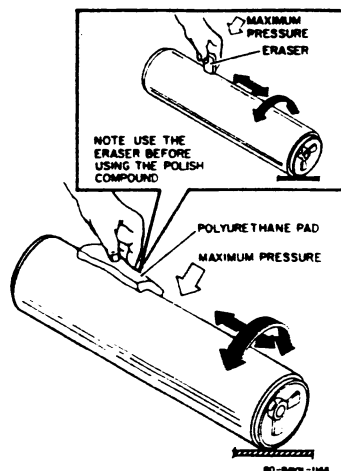

Figure 3. Removing the Scratches
1. REMOVE SCRATCHES BY USING THE ERASER (43P61) BEFORE PUTTING THE POLISH COMPOUND ON DRUM (FIGURE 3).